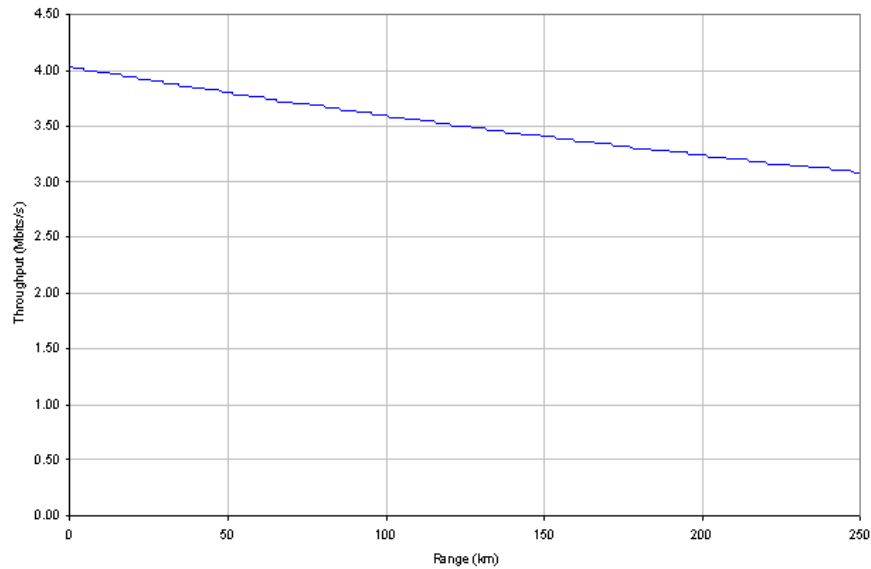
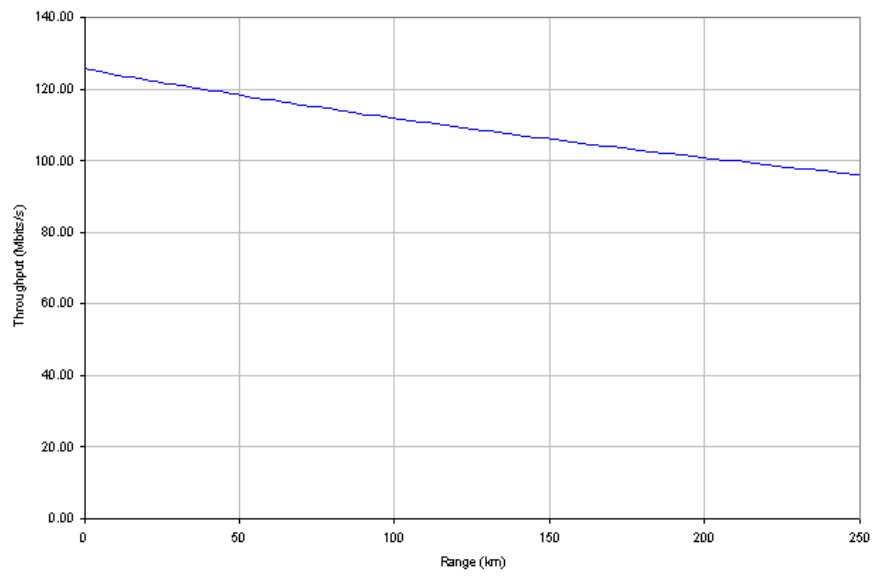

Figure 111 BPSK 0.50 Single Payload
Figure 125 256 QAM 0.75 Dual Payload
- Wireless link mode (IP or TDM) Using these parameters the Receive and Transmit data rates can be looked up using the plots **Figure 111** through **Figure 125**.